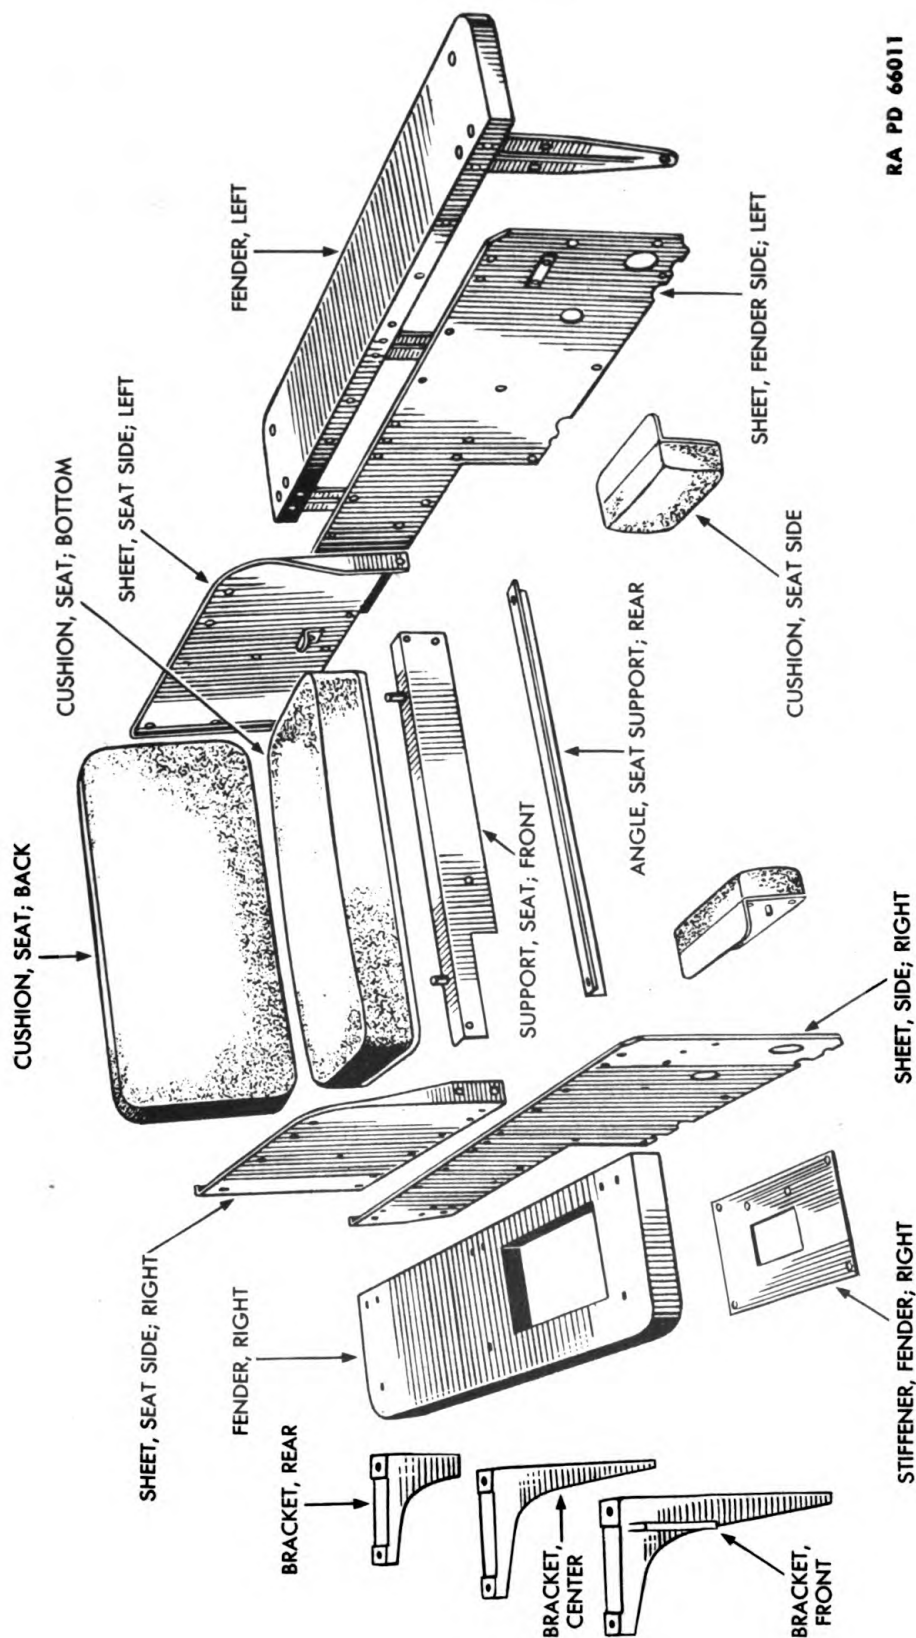

Figure 196 — Seat and Fenders (Lot 1) Parts
Use two $\frac{3}{4}$ -inch open-end wrenches to remove 2 bolts, nuts, and lock washers which hold footrest to fender. Lift off footrest. **NOTE:** Lot 1 tractors are equipped with one-man seat and fenders. To facilitate removal and installation, components of the lot 1 seat and fenders are illustrated in figure 196.
b. Procedure. Throughout the operations in this paragraph, bolt and cap screw holes of attaching parts should be placed in alinement by inserting and leaving one or more assembly punches into holes while initial bolts or cap screw are installed. **NOTE:** Lot 1 tractors are equipped with one-man seat and fenders. To install seat and fenders on lot 1 tractors, refer to figure 196. Procedure outlined here covers four-man seat and fenders, which are used on lots 2, 3, and 4.